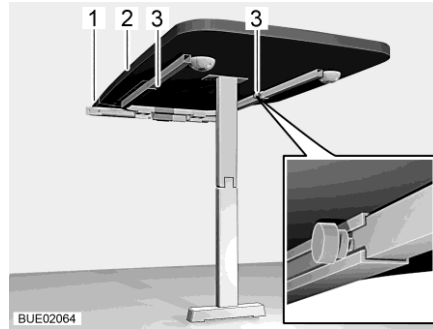

Fig. 133 Suspension table with fold-out leg
- Release two knurled screws (Fig. 133,3).
- Raise the table top (Fig. 133,2) slightly and pull it out as far as possible. The table extension has now been fully pulled out.
- Insert the table top extension (Fig. 133,1) into the table extension.
- Slightly lift the front of the table top (Fig. 133,2) and pull out.
- Remove the table top extension (Fig. 133,1) and store it securely.